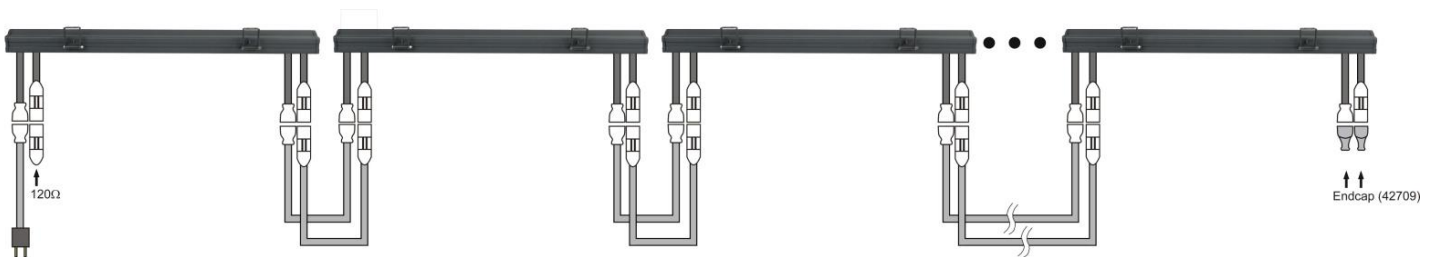

Fig. 3
3. Link the units as shown in (Fig. 3), Connect a DMX signal cable from the first unit's DMX "out" socket to the second unit's "in" socket. Repeat this process to link the second, third, and fourth units. You can use the same functions on the master device as described on page 12 (Built-in Programs or Autorialun). This means on the master device you can set your desired operation Mode and all slave devices will react the same as the master device.